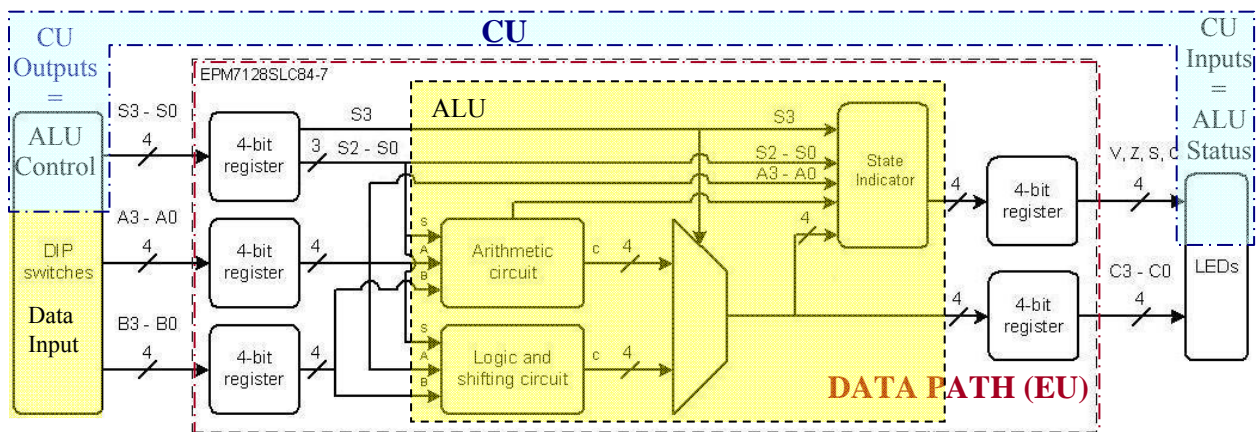

Figure 2: ALU datapath
Figure 2 presents the ALU datapath. For testing purposes, since CU (the light-blue block in Figure 2) is not designed and built in this lab, CU is replaced and emulated by 4 DIP switches for generating the ALU control inputs (S3 - S0) and 4 LEDs to display the ALU's state indicators (V,Z,S,O). Operands A and B are generated manually by 8 DIP switches, while the result C is displayed by other 4 LEDs.
Both inputs and outputs are stored in buffer registers (D flip-flops synchronized with the same clock), A, B, and C, as shown in Figure 2. To operate at the highest speed, the ALU datapath should be provided with both operands (A and B) and control bits (S3-S0) at every consecutive clock. To insure a correct operation of the datapath, the total delay
- 6.7. Enter the ALU status circuit (called “State Indicator” in the diagram of Fig. 2) in a graphic file named “*state4bits.bdf*”. Repeat the necessary steps to create its symbol.
- 6.8. Combine your registers (A, B, C), arithmetic circuit (AC), logic and shift circuit (LSC) and the status indicator in a top-level graphic file (named *Lab3top.bdf* in Fig. 3.) to synthesize the ALU datapath as presented in Fig.2. (The top level diagram of a different ALU is presented as an example in Figure 10 - annexed at the end of this document).